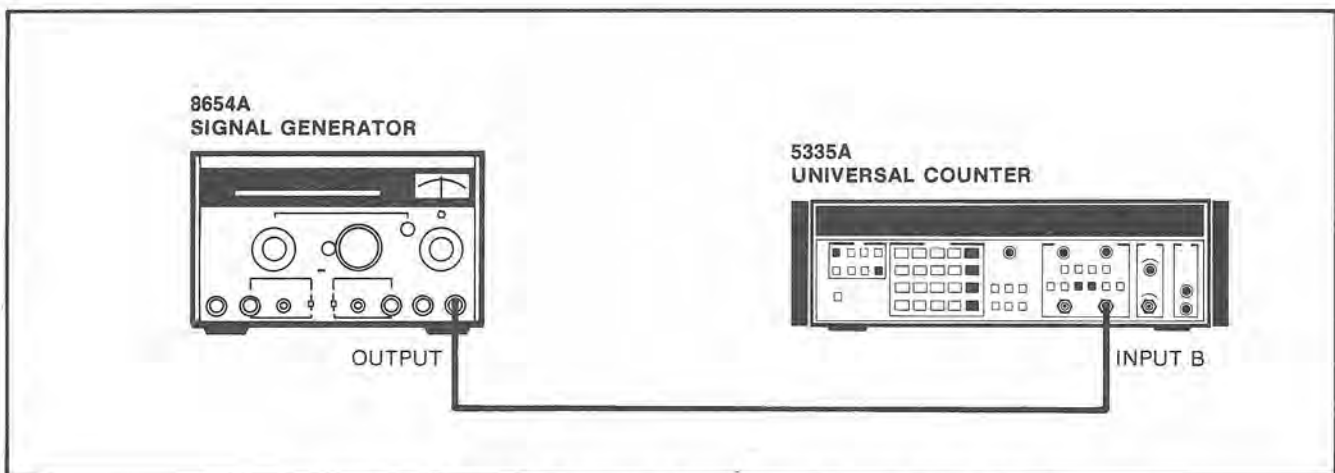

Figure 4-10. Channel B Frequency Response and Sensitivity Test Setup
l. Connect the HP 8654A Signal Generator to the 5335A INPUT B as shown in Figure 4-10.